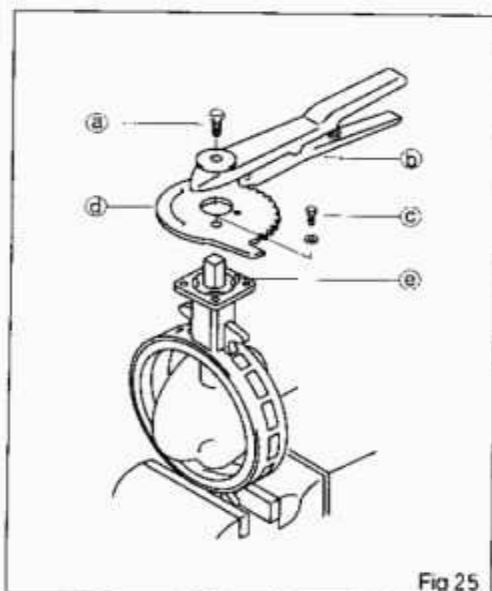

Fig 25
1. Lever operation type (Fig 25)